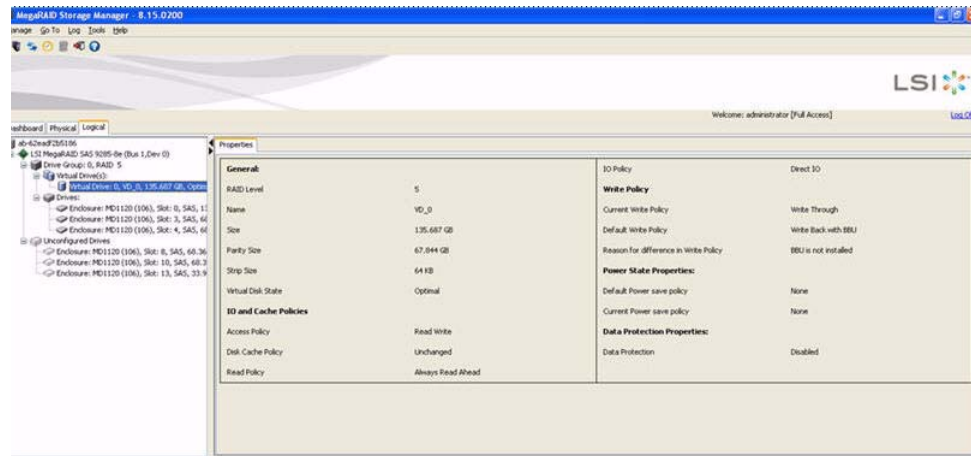

Figure 184: Parity Size
2. For RAID 5, RAID 6, RAID 50, and RAID 60, the **Parity Size** is displayed, as shown in Figure 184.